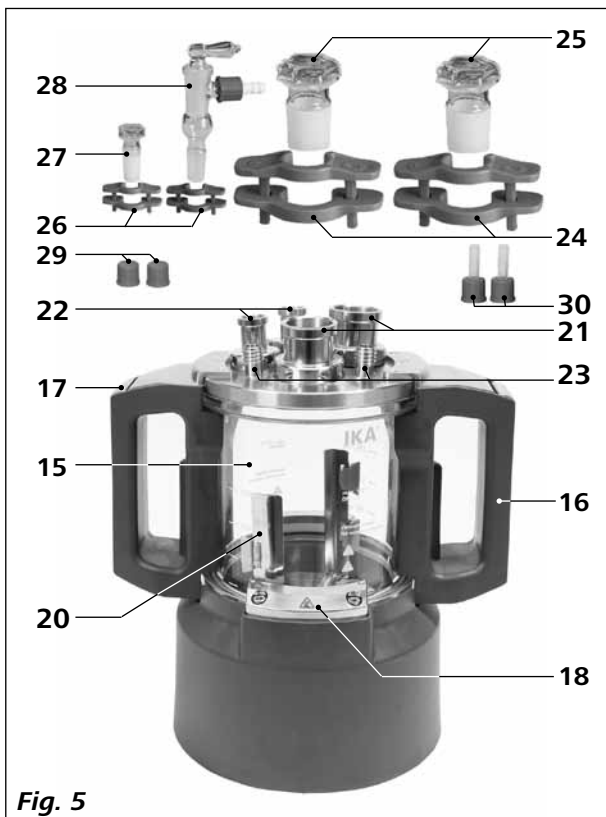

Fig. 5
- Reactor vessel LR 1000.3 (see Fig. 5)